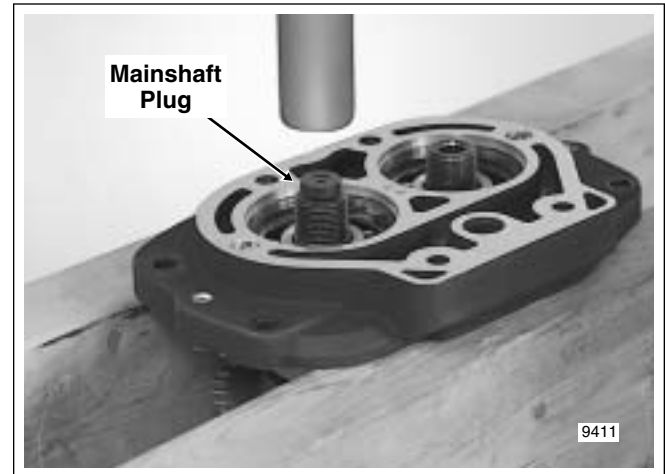

Figure D-2. Press Out Countershaft
6. Center countershaft under ram. Install mainshaft plug into hole at end of countershaft. Slowly apply pressure until countershaft is free. See Figure D-2. Remove mainshaft plug.